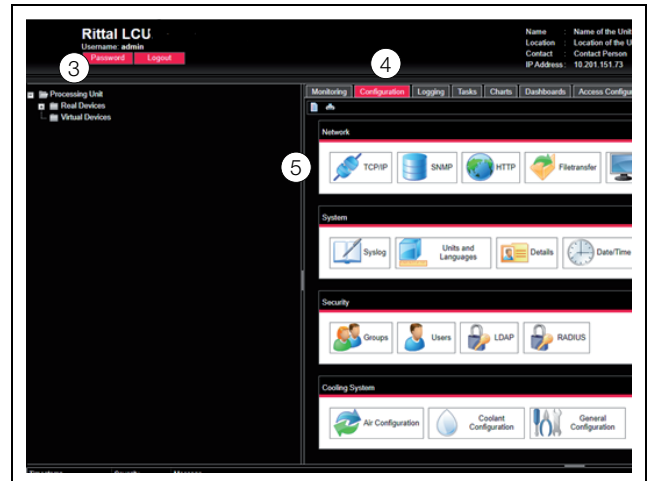

Fig. 23: Adjusting the TCP/IP settings
The overview window for the device will appear (fig. 23).
- In the left-hand section of the overview window (navigation area), click on the **Processing Unit** entry (fig. 23, item 3) and in the right-hand section (configuration area), click on the **Configuration** tab (fig. 23, item 4).
- In the group box **Network**, click on the **TCP/IP** button (fig. 23, item 5).